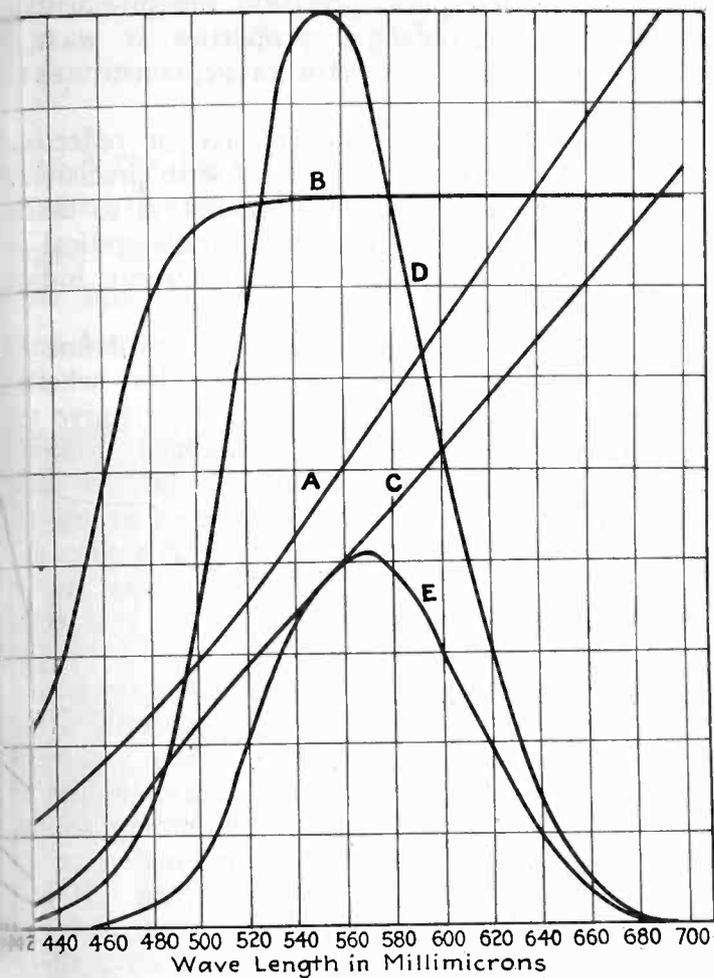

Fig. 2—Energy distribution and transmission curves. See text for explanation of individual curves
The mechanism of color vision is illustrated graphically on Fig. 2 in which
At this point it seems desirable to direct attention to one factor in colorimetry which seems not always to be clearly understood. It will be noted on Fig. 2 that the relative absorption of the emitted light by the filter is much greater in the blue than in the red. The resultant
However, Curve (D) on Fig. 2 is a reasonably accurate expression of average eye sensitivity, and because it has been clearly defined mathematically it enables one to calculate the relative response of the normal eye to any known visible energy stimulus.
Curve (E) on Fig. 2 is the final resultant of all factors that is translated into color vision, and it, too, is derived by computation, being the product of Curves (C) and (D).